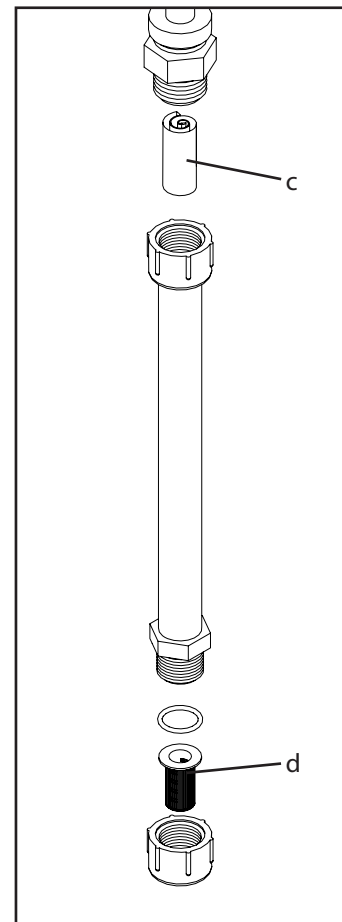

Figure 6: Drop Tube Assembly
3. Drop Tube Pads (c): Located inside the upper portion of the drop tube assembly. It should be rinsed after each use or on a daily basis (Figure 6).
4. Drop Tube Liquid Strainer (d): Located at the bottom of the drop tube assembly. It should be rinsed after each use or on a daily basis (Figure 6).